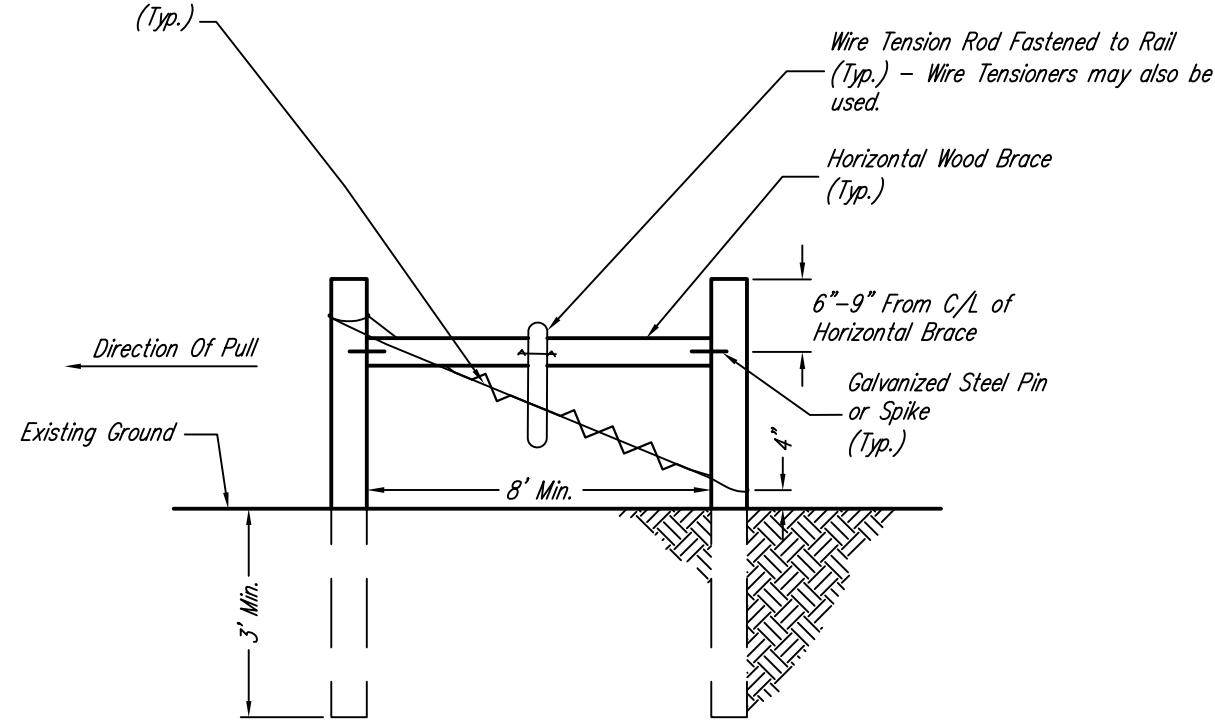

FIG 1.1 SINGLE H-BRACE END POST DETAIL
- Single H-braces or floating angle braces are required for all end and gate assemblies. (See **Figures 1.1 and 1.2**)